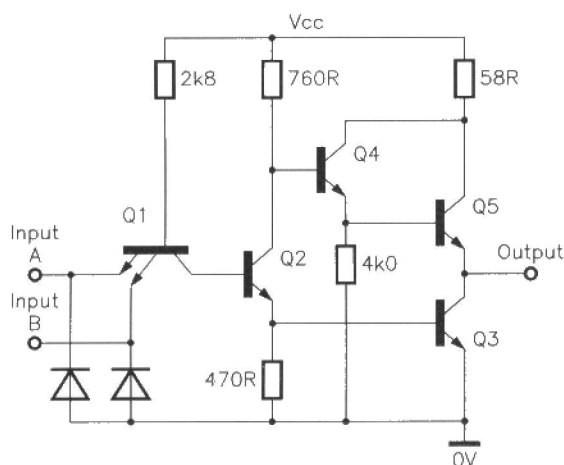

Figure 3. Circuit of a high-speed (H) TTL 74H00 2-input NAND gate.
**High-speed (H) TTL (now obsolete).** A modified version of the standard type, with its resistance values reduced to give an increase in speed at the expense of increased power consumption. Figure 3 shows the circuit of a 74H00 2-input NAND gate; its power consumption is 22mW, and its propagation delay is typically 6ns.
**Schottky (S) TTL.** A common-emitter transi-